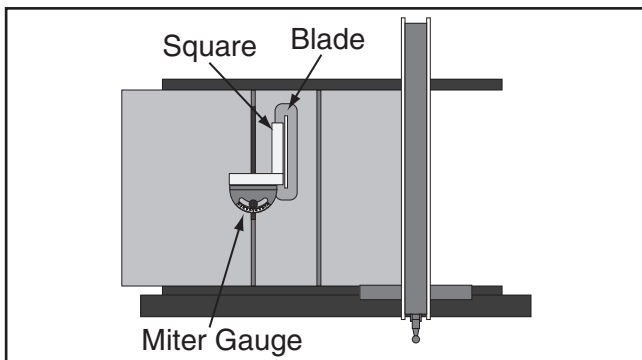

Figure 136. Checking 90° stop on miter gauge.
4. Place the 90° square evenly against the face of the miter gauge and the blade, as shown in **Figure 136**.